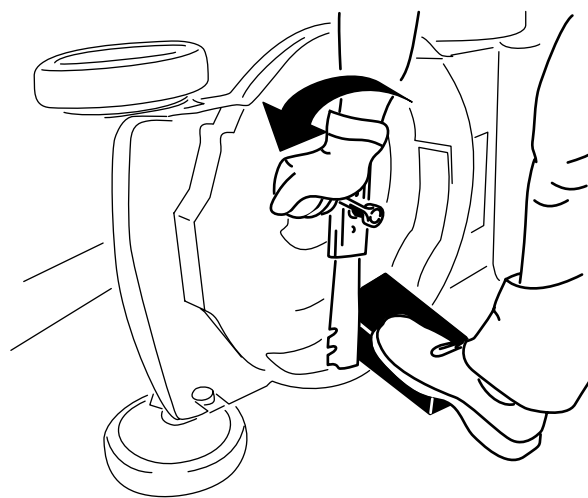

Figure 24
2. Use a block of wood to hold the blade steady (Figure 24).
3. Remove the blade, saving all mounting hardware (Figure 24).